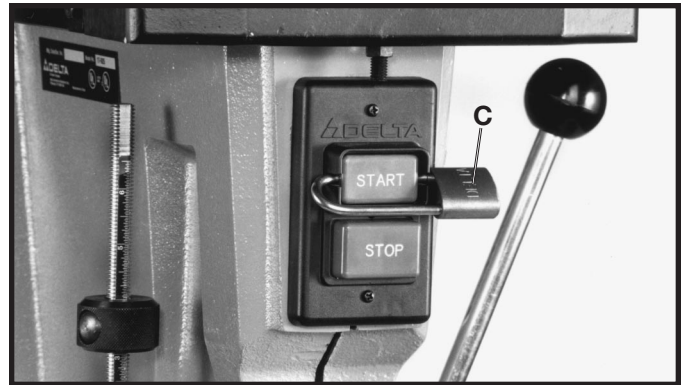

Fig. 24
IMPORTANT: When the machine is not in use, the switch should be locked in the OFF position using a padlock (C) Fig. 24, with a 3/16" diameter shackle to prevent unauthorized use.